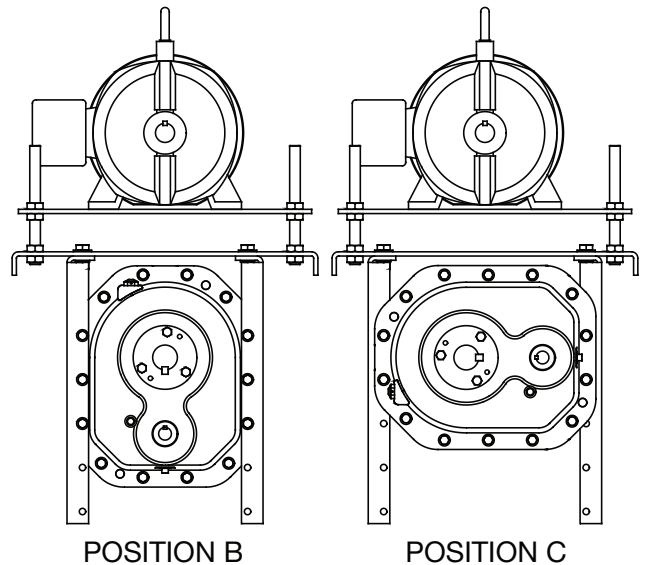

Figure 14 - Mounting Brackets in Position C
2. Using the hardware provided, assemble the two brackets to the back cover as shown in Figure 14. Note that the brackets are mounted so that the angles of the brackets are mounted in the same direction. Do not fully tighten these bolts.